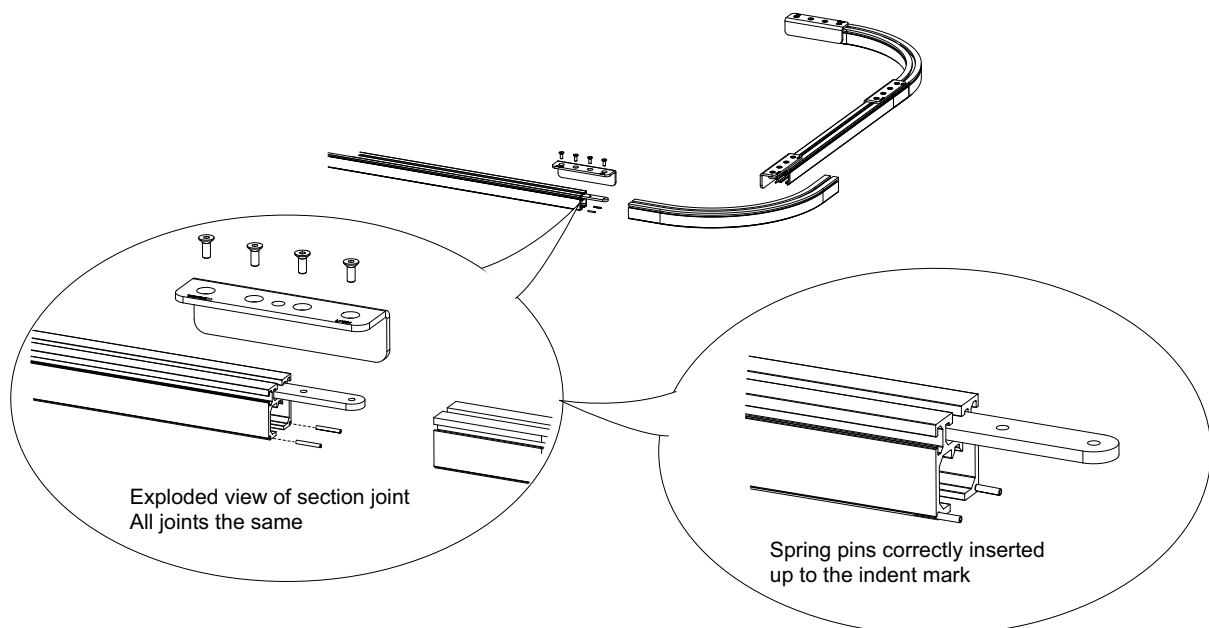

Fig. 1.2 Joining the Curtain Rail
- 1) Lay the parts on the floor, or other suitable large, flat surface roughly in the positions shown in Fig. 1.2.
- 2) Insert the two spring pins (D) into the joint as shown below. Push in each pin up to the indent mark, such that about half its length is protruding.
- 3) Using the M6 x 16 countersunk bolts (A) and joint plates (B and C) provided, assemble the curtain rail as shown below. .